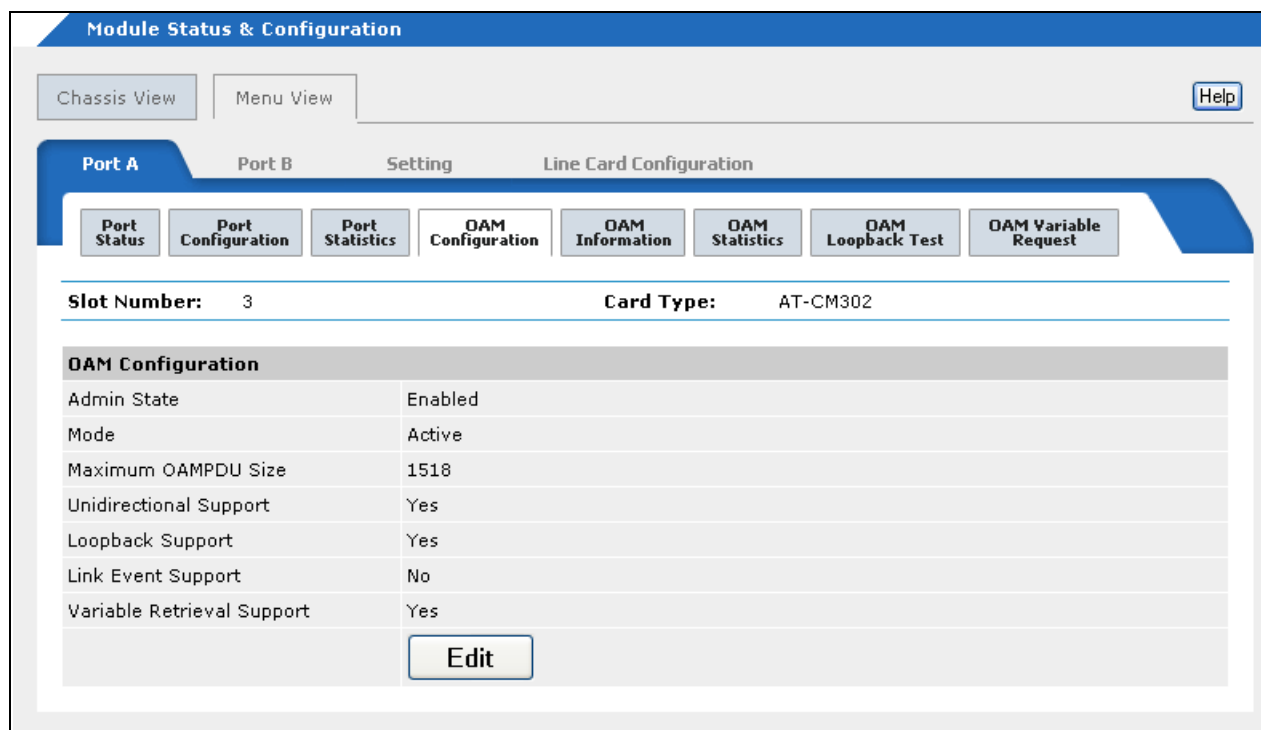

Figure 107. OAM Configuration Tab
4. Select the **OAM Configuration** tab to display the OAM Configuration window shown in Figure 107.